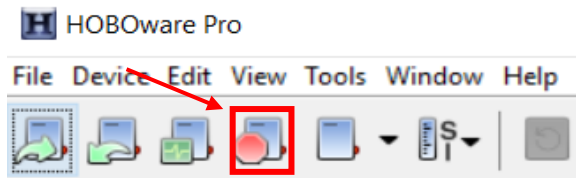

Figure A.12.16: HOB0ware “Stop Logging” Button
2. If satisfied with the accuracy of the measurements, click the “Stop Logging” button on the top left corner of the screen (Figure A.12.16).